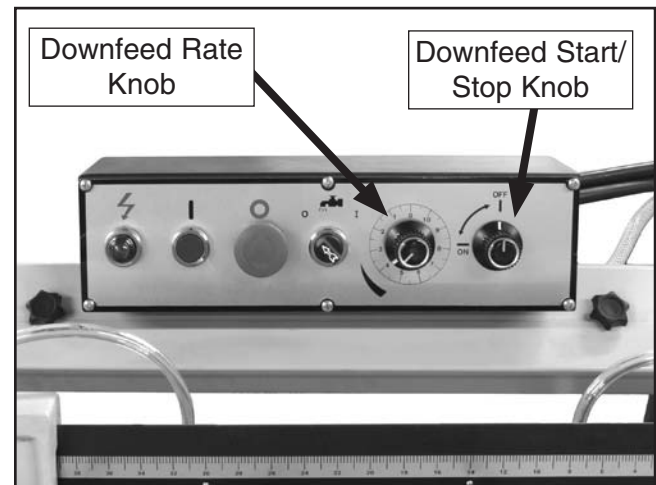

Figure 31. Feed rate controls.
2. Set the Downfeed Rate Knob in **Figure 31** to the desired feed rate.